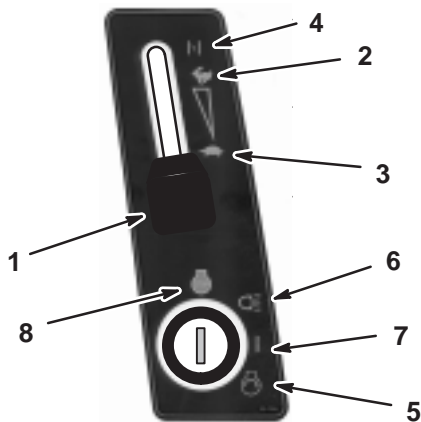

Figure 11
5. When starting a cold engine, move the throttle lever to the Choke position (Fig. 11).
- Turn the ignition key clockwise and hold it in the Start position (Fig. 11). When the engine starts, release the key.
- After the engine starts, slowly move the throttle to Fast (Fig. 11).
- Move the throttle lever to Slow (Fig. 11).
- Turn the ignition key to Off (Fig. 11).